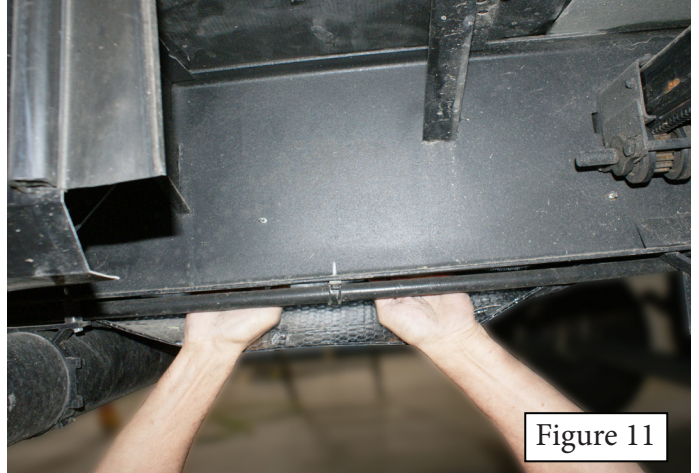

Figure 11
18. Open the underbelly at the front seam (Figure 10) and rear off-door side along the frame rail just ahead of the axles (Figure 11) by removing self tapping screws. **DO NOT** remove the underbelly completely.